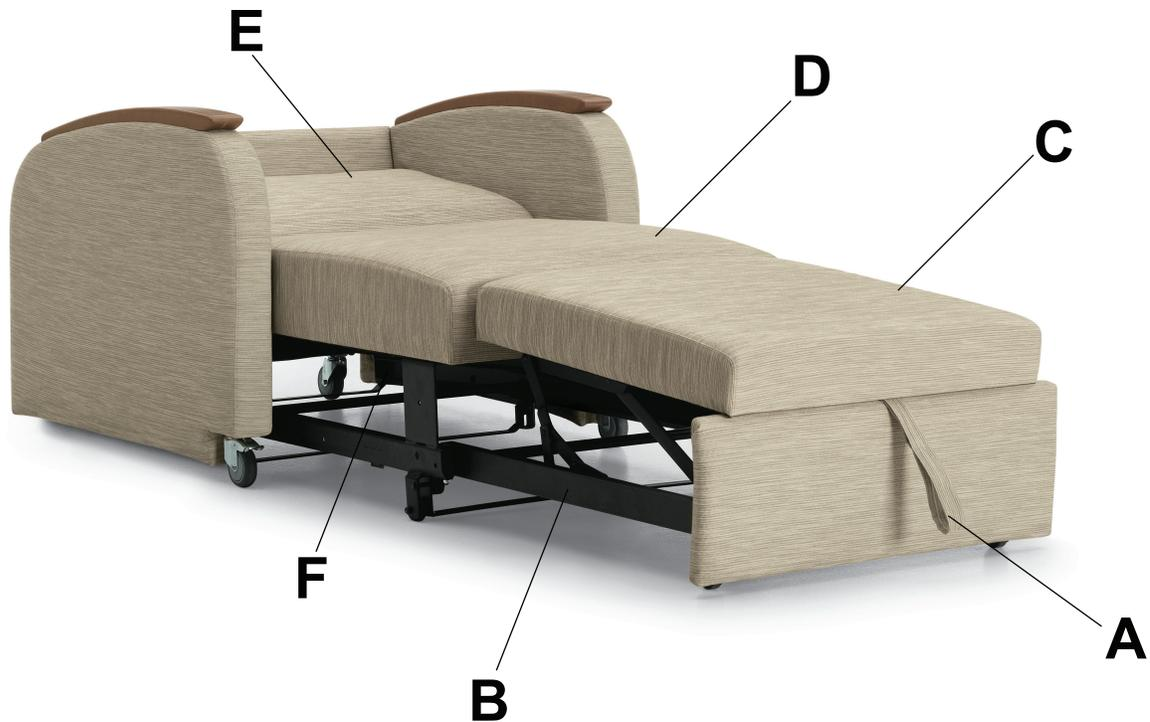

Figure 6 – Seat cushion replacement
1. Pull the strap (A) on the front of the recliner to slide out the extension frame (B) (Figure 6).
2. Pull the strap up and out to raise the ottoman cushion (C) to its upright position.